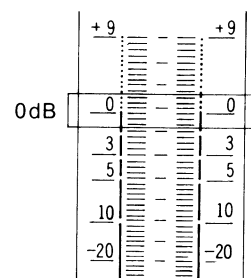

Fig. 18
5. At this time, check that 0dB indicator is lighted halfway (intermediate brightness between full brightness and light-out: See fig. 18).